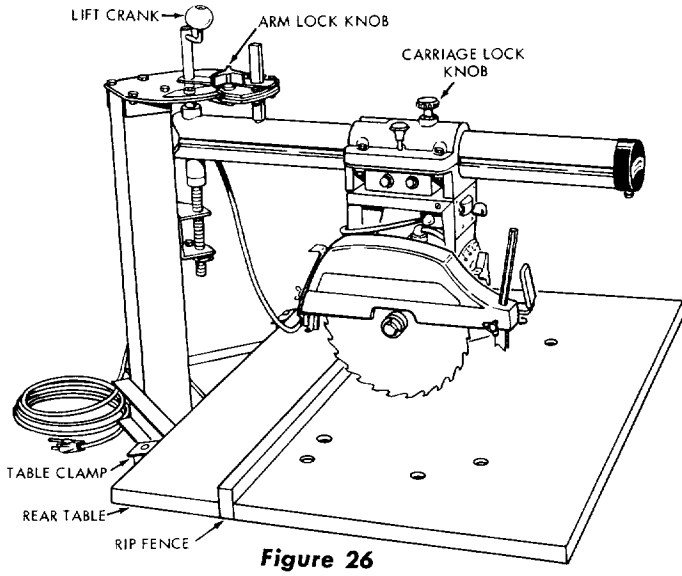
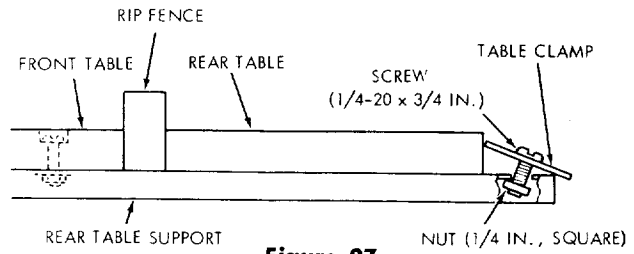

Figure 26
Figure 27
- i. Elevate the saw slightly with the lift crank, to clear the table, move the radial arm to the crosscut (0°) position and tighten the arm lock knob. (See figure 26.)
- j. Place the rear table and rip fence in position (figure 26), with ends even with front table.
- k. Install the two table clamps (figure 26) on ends of the table supports with one 1/4-20 x 3/4-inch screw, and 1/4-20 square nut in each clamp. (See figure 27.)
- i. Make sure each table clamp is positioned at the angle shown in figure 27 and tighten the screws firmly to secure the rear table boards.